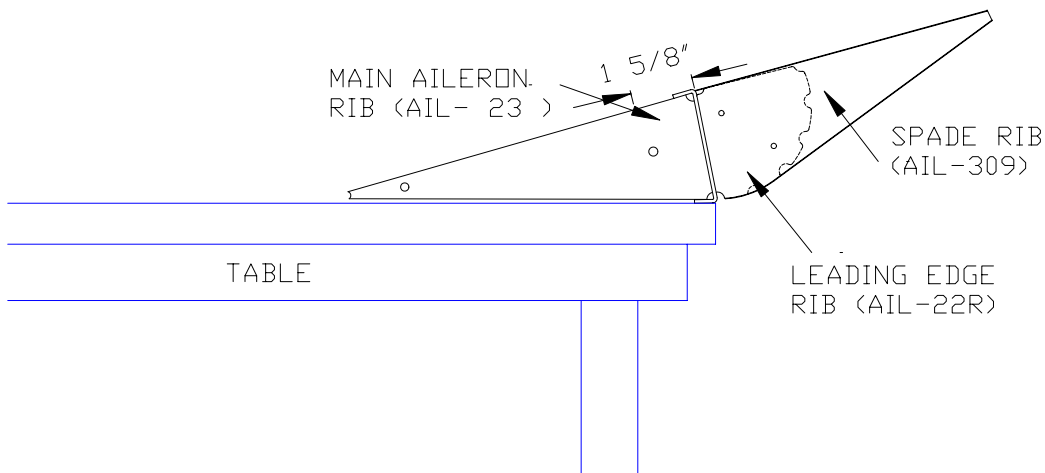

Figure 7.2.7
- 20) Drill a #40 hole in each Main Aileron Rib of the Spar/Rib assembly. The hole should be 1 5/8" from the front surface of the Spar on the center line of the rib flange. Figure 7.2.7.